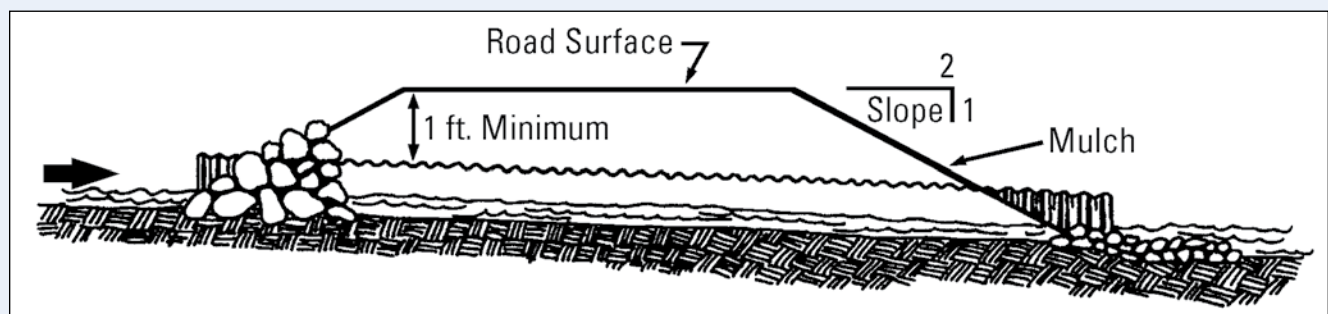

Figure 12-11: Install culverts so there is no change in the streambed elevation. (Figure Credit: WDNR)
- ◆ Install culverts so there is no change in the streambed elevation. Culverts should not cause dam or pool water (see Figure 12-11).